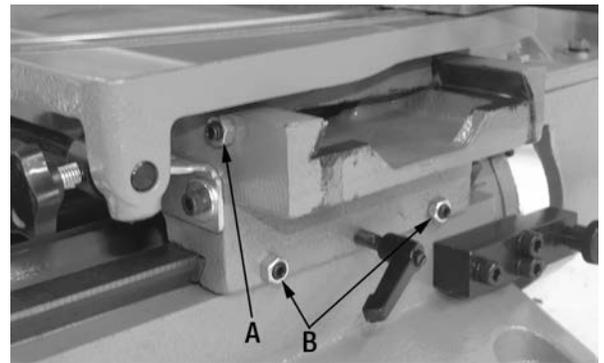

FIGURE 23
The same adjustment should be checked for the longitudinal travel adjusting hex. nuts and adjustment set screws (A) Fig.23 and the transversal travel hex. nuts and adjustment set screws (B).